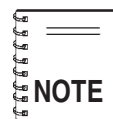

**Figure 3B. Full Power Switch 120VAC (Up) Simplified Wiring Diagram**
4. **Full Power Switch** – This generator is provided with a full power switch. Figures 3B and 3C show simplified wiring diagrams of the dual voltage system. When the full power switch is in the 120 volt (up) position, you can take up **full rated power** of the generator at 120 volts from the GFCI duplex receptacle, 120 volts at the 120 volt twist-lock receptacle, or a combination of both receptacles as long as the total load does not exceed the generator's capacity.